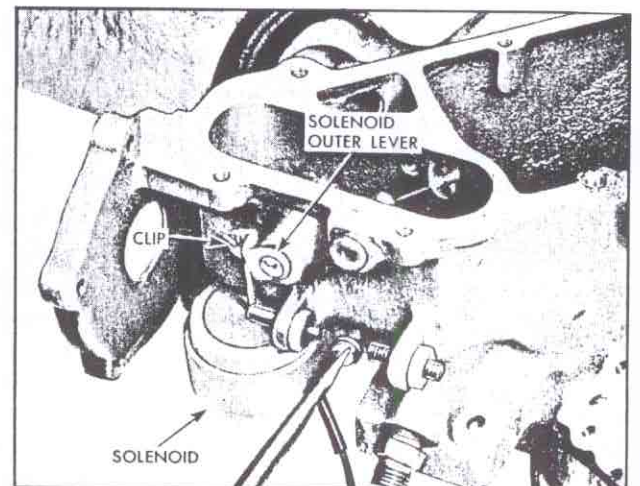

Fig. 140—Removing Solenoid and Outer Lever
17. Remove hairpin clip (fig. 140) securing solenoid shaft to solenoid outer lever, disconnect shaft and outer lever, then complete removal by removing two screws attaching solenoid to fuel meter.